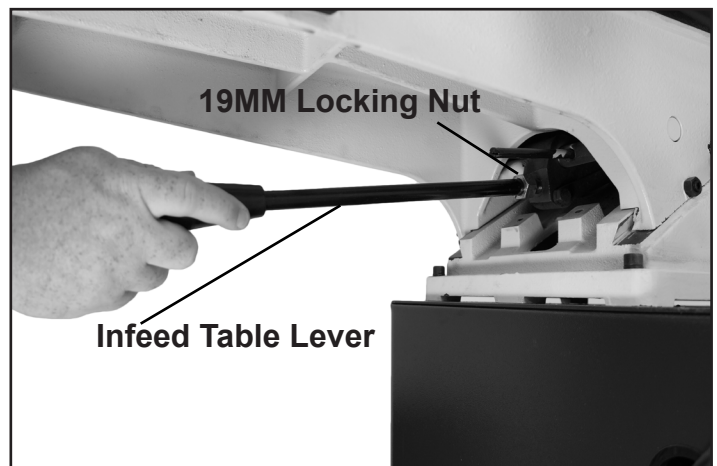

FIG. 14
2. Once the Infeed Table Lever is fully threaded into the Lifting Assembly tighten the 19MM locking nut to secure into position. FIG. 14.